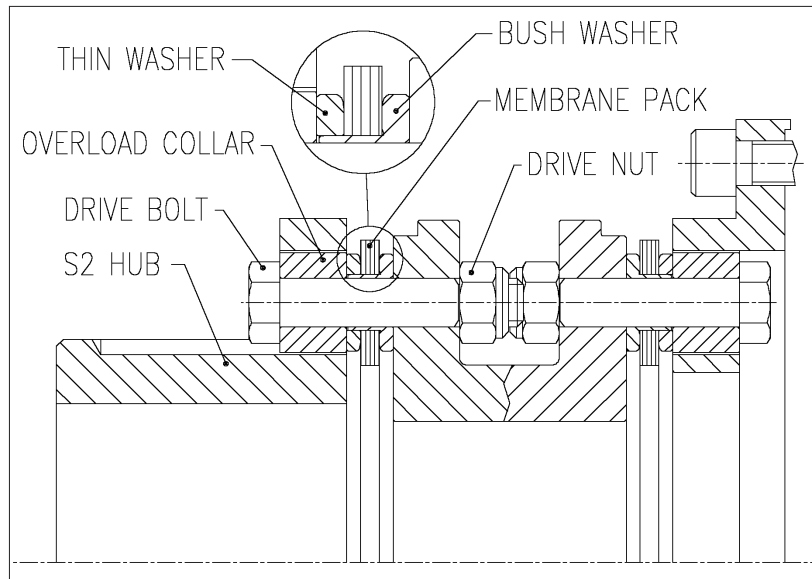

Figure 4 — Installation of Final Three Drive Bolts
3.5.11. Install the three remaining drive bolts through the overload collar, the large holes in the hub, the membrane pack and the small holes in the spacer as shown in fig.4 Hand tighten the drive nuts.